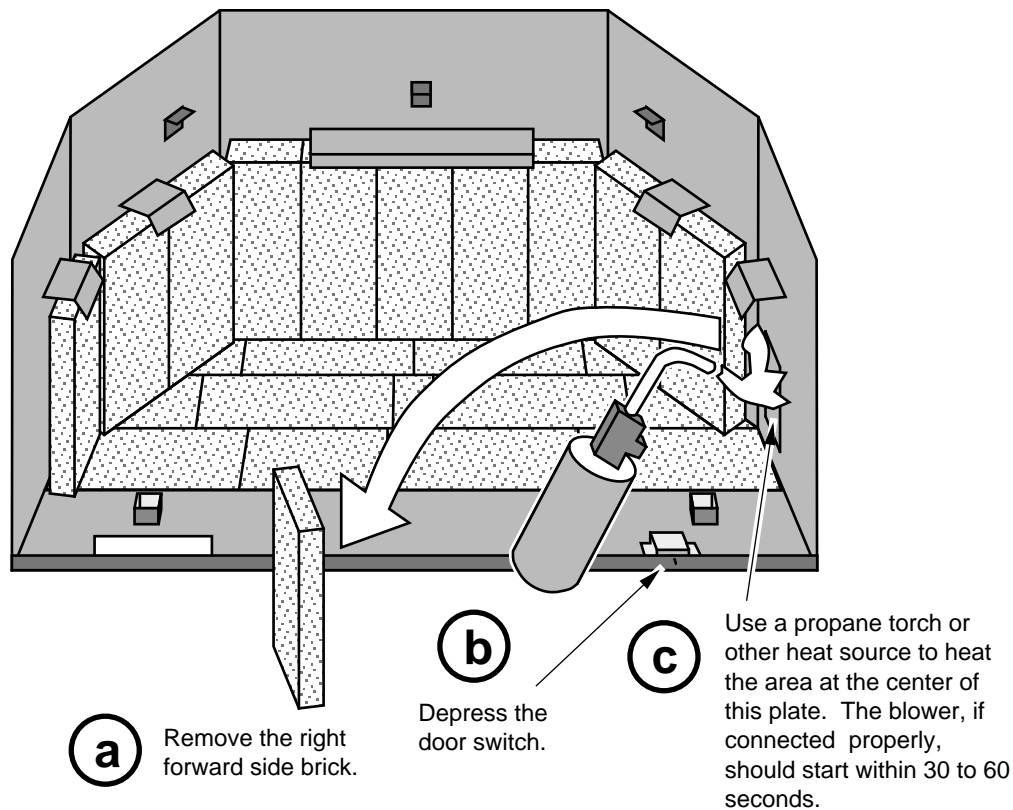

Figure 34
- Test the blower circuit by following the directions in Figure 34.